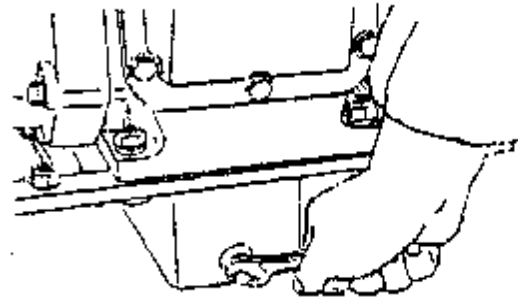

Fig 5
1. Drain out the lubricating oil from the oil sump by screwing off the oil — drain plug. Screw back the plug after draining. This operation may better be performed immediately after the engine stops running when the oil temperature is comparatively high (Fig. 5).